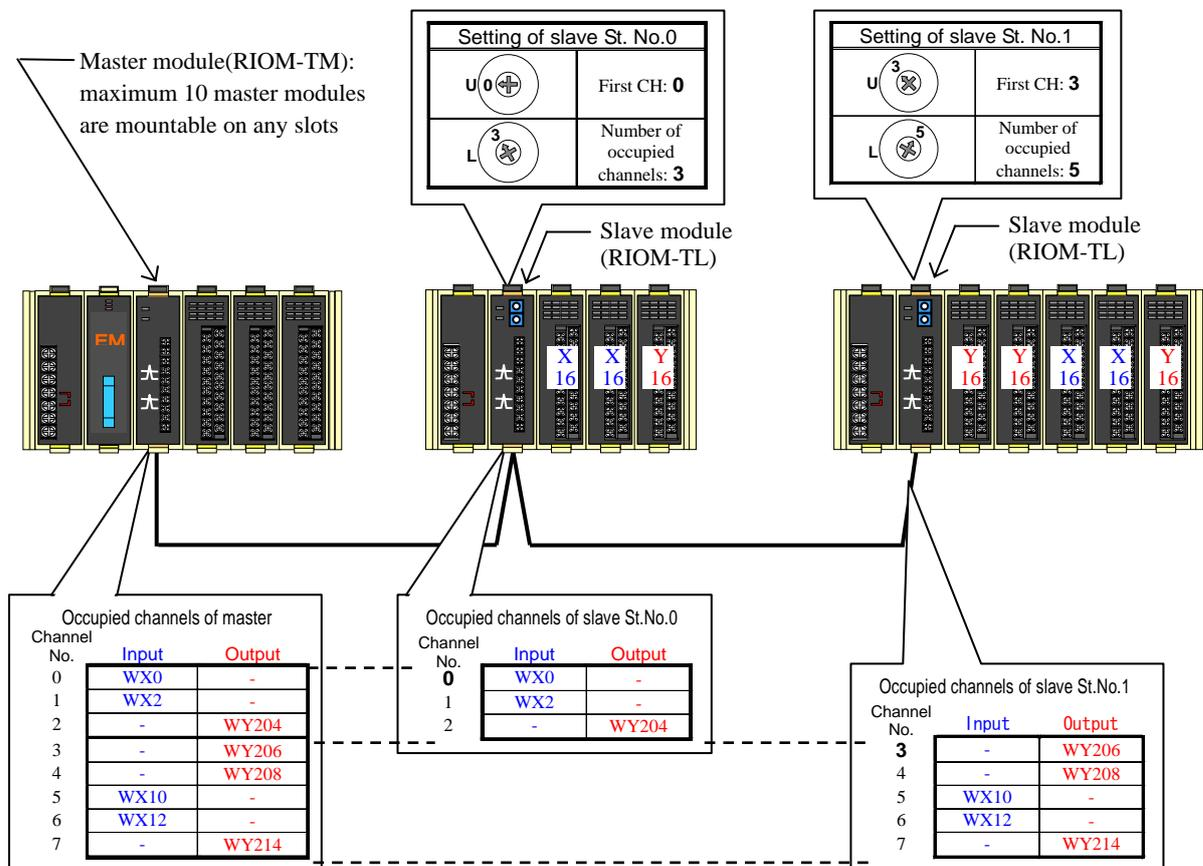
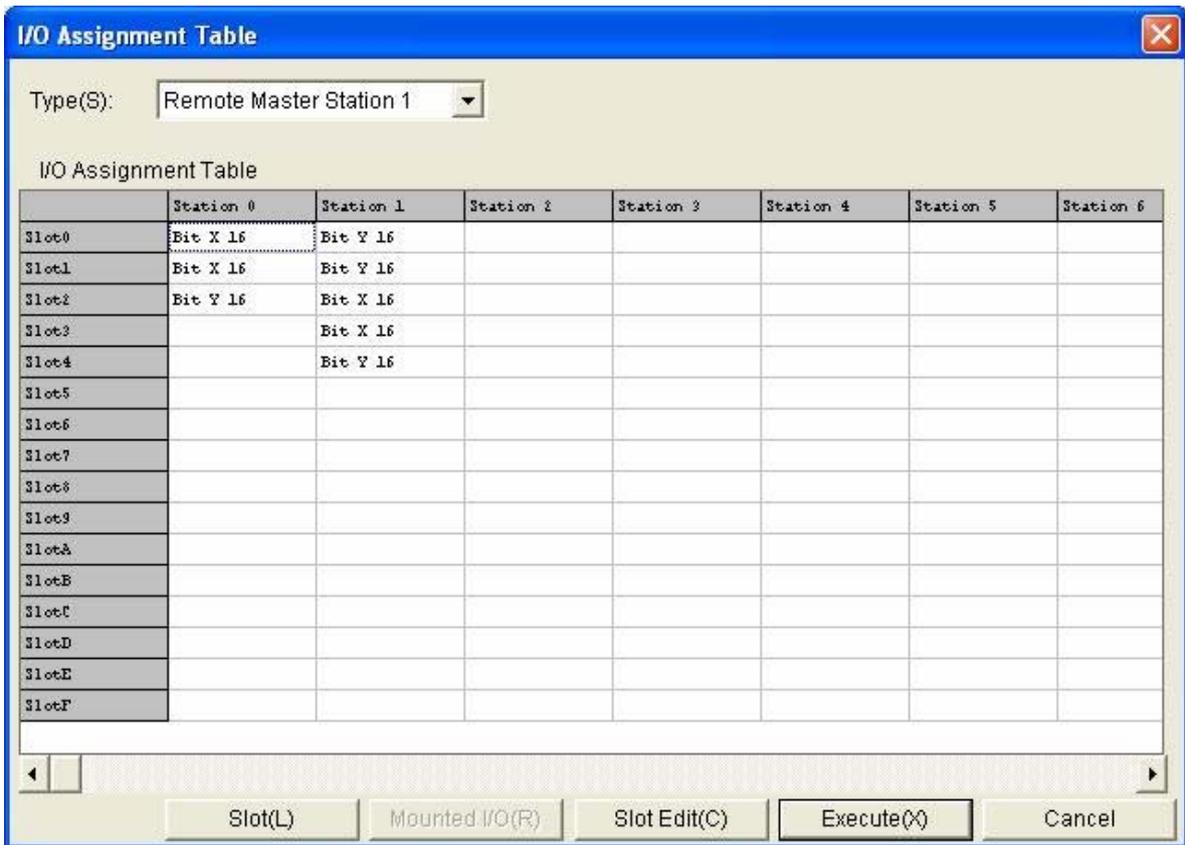
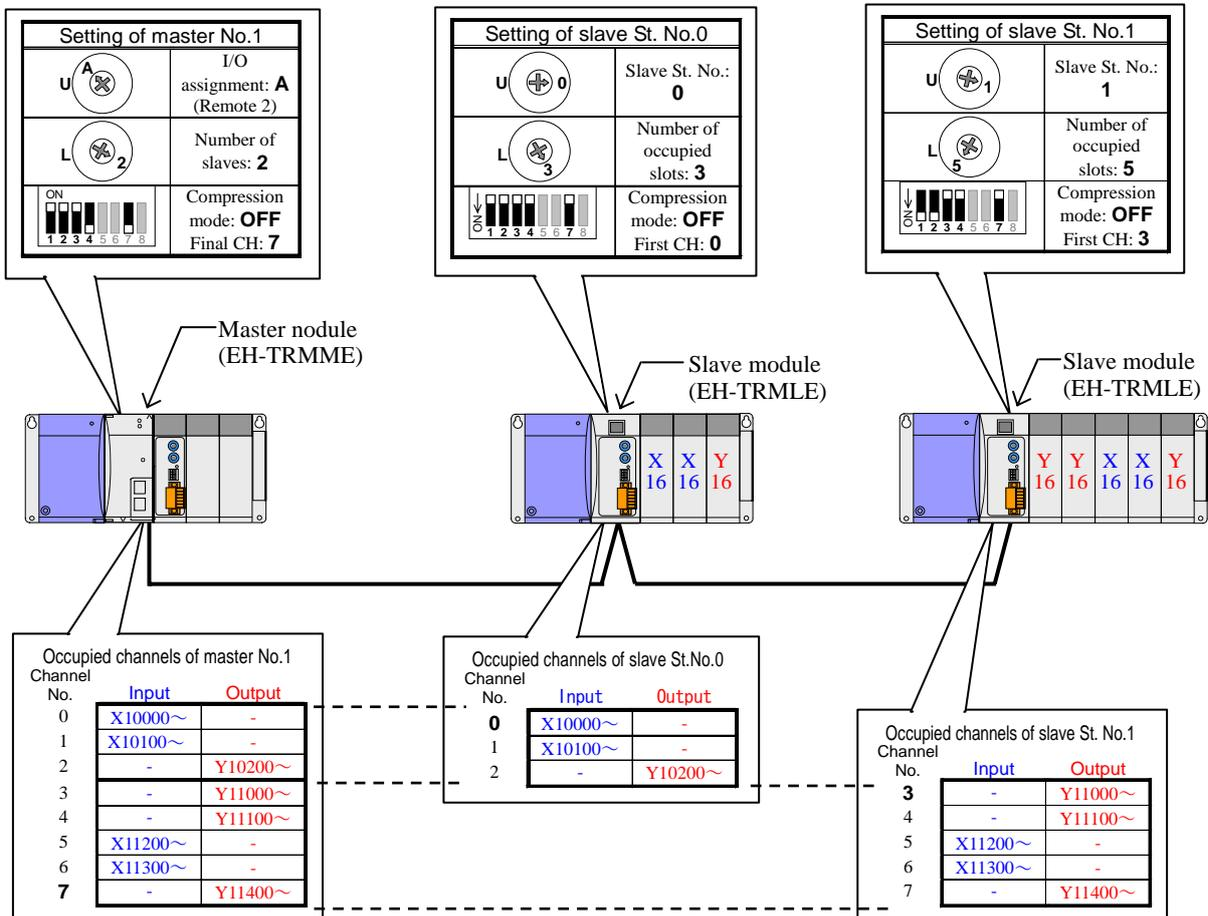

Figure 4.32 System configuration example-15 of the EM/EM-II series (Not using image slot)
Figure 4.33 Example of I/O assignment for slave bases (with Ladder editor in system configuration example-16)
Figure 4.34 Replaced system configuration example-16 of the EH-150 with normal remote method
Figure 4.32 shows the system configuration example of the EM/EM-II series using no image slot. Figure 4.34 shows the replaced system configuration example of the EH-150 series. In the case of EM/EM-II series, it is not necessary to set I/O assignment for I/O modules. But it is necessary to set I/O assignment “REMOTE 2” for master module in replaced system with EH-150. Figure 4.33 shows I/O assignment for remote bases of this replaced system.
Figure 4.34 is an example of replacing all of master and slave modules with the EH-150 series. It is also possible to leave all or partially slave modules like the EM/EM-II series in order to postpone the wiring work of slaves. In this case, please set rotary switch (upper) “E” for master module and all slave modules in order to match communication protocol. Please turn off high-speed refreshing mode (HS) of a front DIP switch of the master module and the slave modules.
If you replace this system to EH-150 series with compression remote method, output modules on occupied slots don't operate normally. Please use normal remote method for this case as shown in Figure 4.34, and set compression mode OFF for master module and all slave modules.